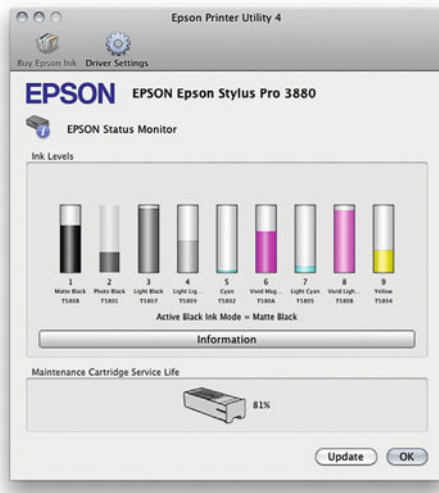

FIGURE 8.3 EPSON Printer Utility Status Monitor section that shows ink levels and remaining capacity of the maintenance tank before it needs to be replaced.
2. *Verify ink levels.* Once in the printer utility, use the **Status Monitor** to check ink levels, as shown in Figure 8.3. Make sure that the ink levels are at least high enough to print your output profile-building target (one to three pages). This also shows the remaining capacity of the maintenance tank, which is used to absorb the excess ink when cleaning the printer nozzles.